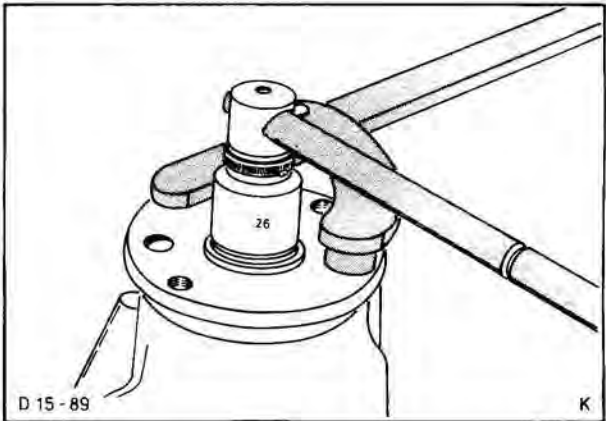
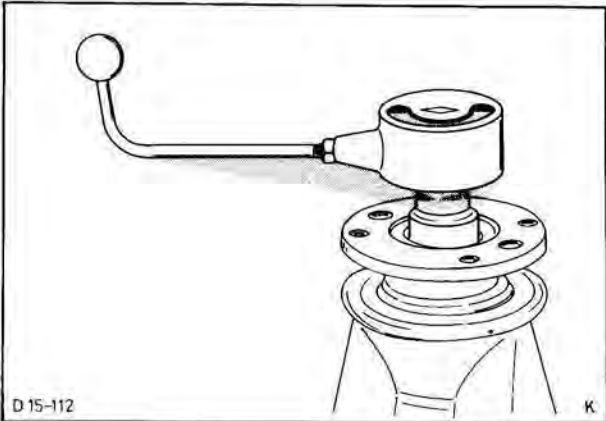

Fig. 85. Hold drive pinion flange and tighten nut slowly
Fig. 86. Check running torque of drive pinion using pre-load gauge 15-041
- 37. Fit drive pinion with new clamping sleeve, fit on drive pinion flange and attach new nut, Fig. 85. Hold flange with Special Tool No. 15-030 and tighten nut, taking repeated torque measurements, until value found previously (+0,3 Nm (3 cmkp) for oil seal friction) is reached. (Measure torque with pre-load gauge 15-041, Fig. 86).